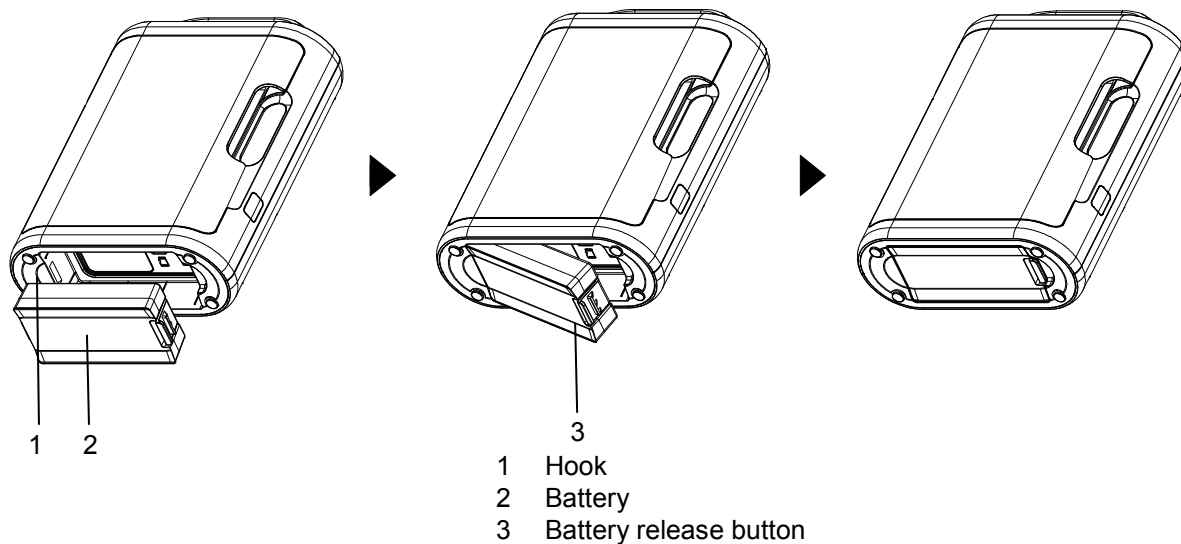

Figure 4. Inserting the battery
2. Prepare the new battery, then connect the battery and AED by using the hook as shown in the second figure of the Figure 4.
3. When the connection part is fastened properly, slide the side of the battery with the release button into the AED until the click sound is emitted as shown in the third of the Figure 4.